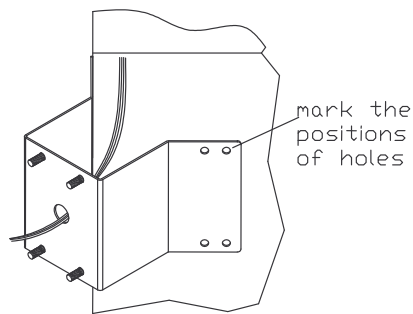

FIG.21
1. First mark the positions of holes placing the corner mount bracket. (FIG.21)